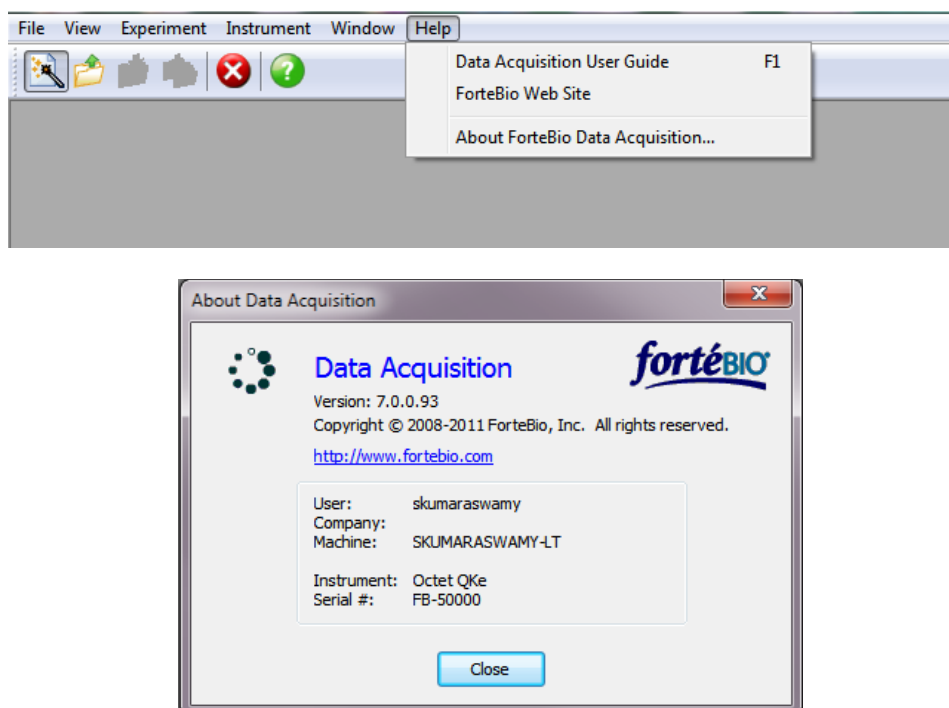

FIGURE 2.6. FIND OCTET DATA ACQUISITION VERSION NUMBERS ON YOUR OCTET SYSTEM AND RECORD THEM IN TABLE 2.6.
- 1.2. In the pop-up screen that appears, find and record the software version number in Table 2.6. To do this, write down the numbers that follow the words "Version:" as shown in Figure 2.6.